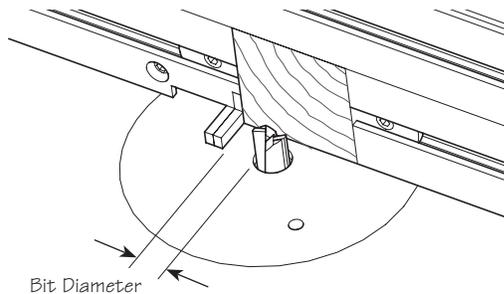

Figure 19: Fence adjustment.
3. Adjust the fence so the cutting flute of the bit just touches the fixed key. Using the fence micro-adjust or vernier caliper, back the fence away from the fixed key a distance equal to the bit diameter (see **Figure 19**).
- Dry fit the two test pieces together. They should fit together with little force, yet have no free play. A joint that is too tight indicates that the fixed key is further from the bit than the bit diameter. Conversely, a joint that is too loose indicates that the fixed key is closer to the bit than the bit diameter. Readjust the fence position as required (see **Figure 19**). At the same time, check that the fingers project approximately $\frac{1}{32}$ " (1mm) beyond each workpiece. Readjust the bit height if necessary.